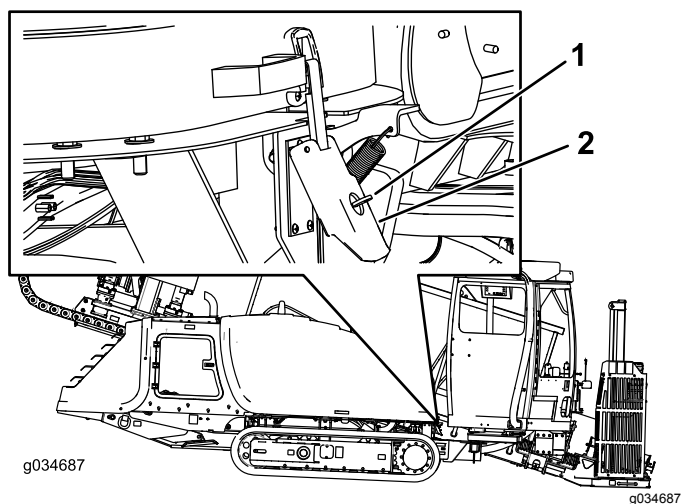

Figure 69
2. Lift up on the latch as shown in Figure 69.
Note: Ensure that the key is in the OPEN (horizontal) position as shown in Figure 69.